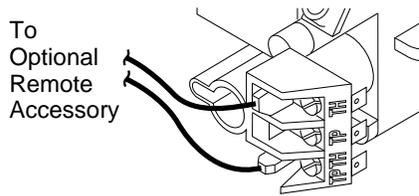

Figure 41 - Control Valve Terminals
6. Connect wires from receiver to TH and TPTH to control valve (see Figure 41).
- Connect one terminal of the provided wire for the wall switch to the TPTH terminal on the valve. Connect remaining wire terminal to the TH terminal on the valve. Make sure that the wire terminals are in the positions on the unit as pictured in Figure 41, page 21. If wires are not connected as shown the switch will not work.